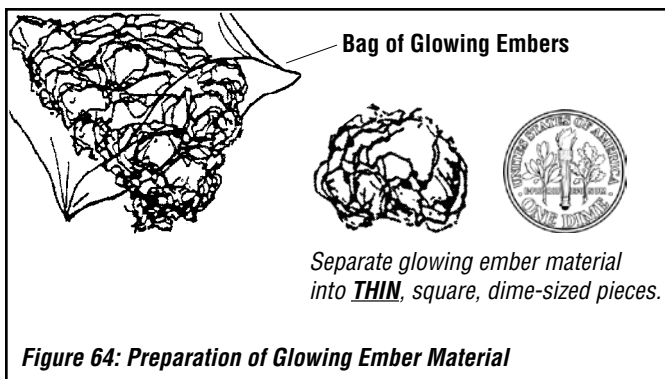

Figure 64: Preparation of Glowing Ember Material
- a) Separate some of the glowing ember material into pieces **about the size and thickness of a dime** (see **Figure 64**). Keep the pieces fluffed up, not matted.